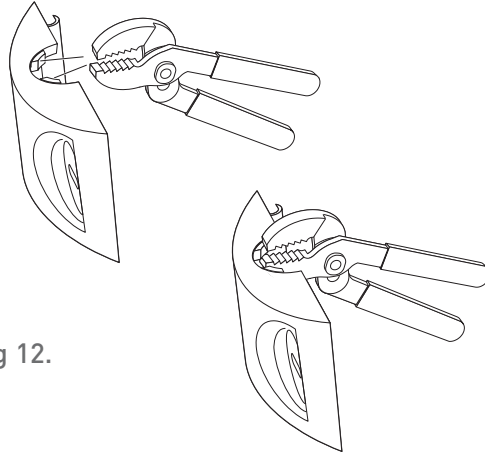

Fig 12.
- Determine mast size. The supplied Mast Bracket will fit a 1 1/4" or 1 1/2" mast. If the mast being used is 1 1/2" in diameter, the tabs on the Mast Bracket Cover needs to be removed using a pair of pliers. See Fig 12.